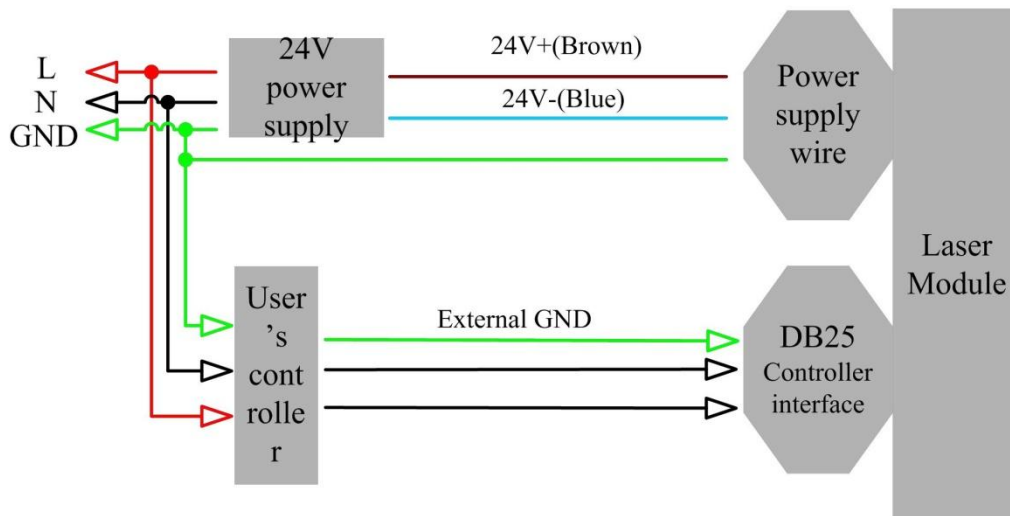

Figure 11 Wiring diagram of recommended electrical connection and power supply
- c) Make sure that the interface of the external controller matches the laser and the control cable is well connected to the laser's interface. The recommended electrical connection is shown in Figure 11.